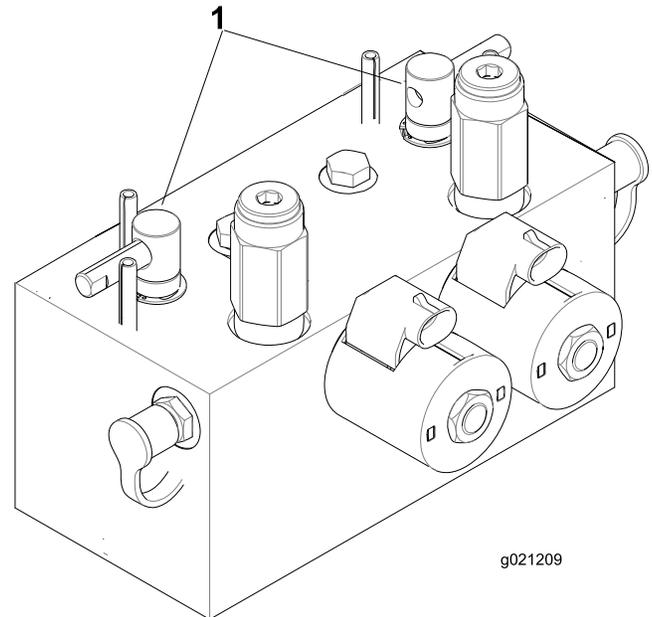

Figure 95
2. Unlock and raise the seat to expose the backlap levers (Figure 95).
5. Select either front, rear, or both backlap levers to determine which units to backlap (Figure 95).